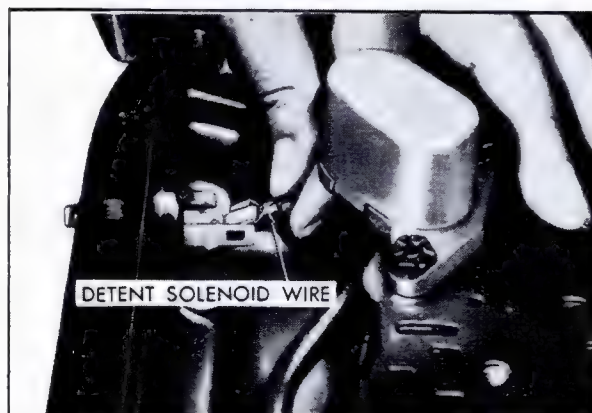

Fig. 7-117 Installing Detent Solenoid Wire
13. Connect detent solenoid to connector terminals, Fig. 7-117.